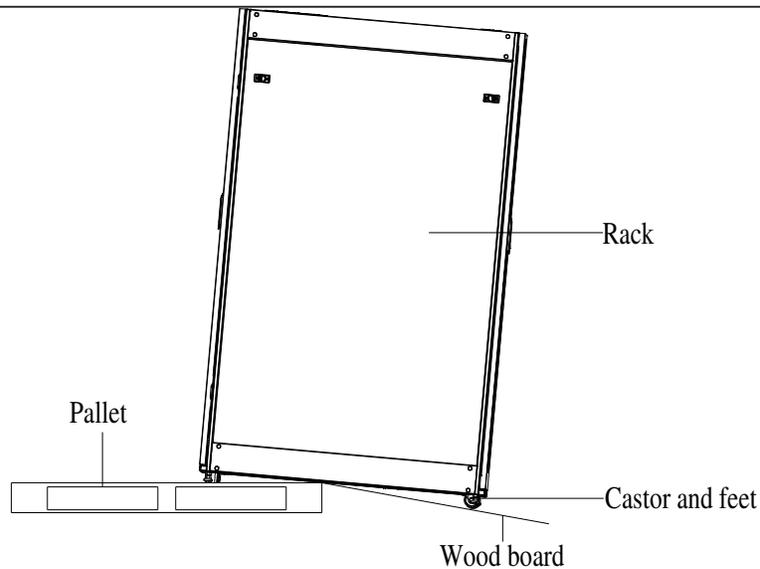

Figure 2-8 Removing the Pallet
2. Slide the rack carefully towards the wooden board from the rear of the pallet through the caster and feet of the rack, then slide slightly to the ground, as shown in Figure 2-8.